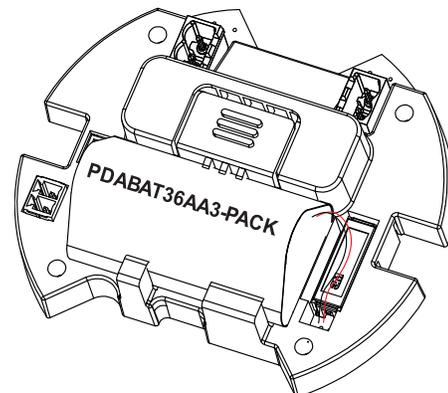

Figure 31. Battery Operation
- Install the new battery into the battery compartment and connect the battery connector plug into the socket on the option module as shown in *Figure 31*.